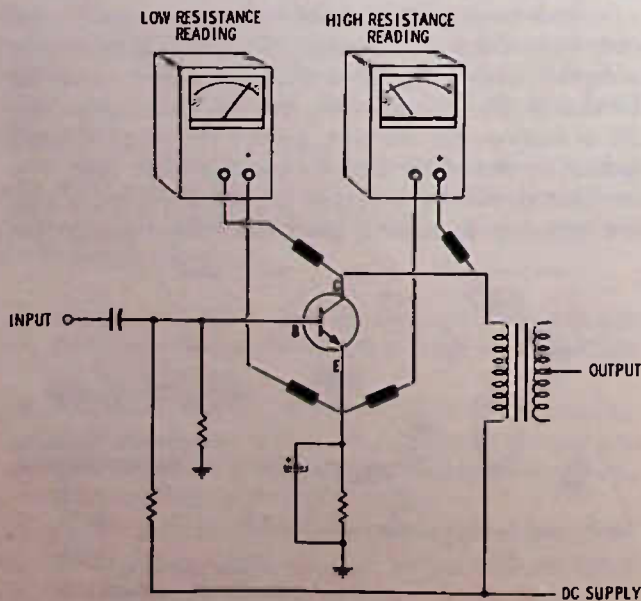

Fig. 15-8. Circuit for Question 2.
2. If the transistor in Fig. 15-8 were measured out-of-circuit, you might find that both ohmmeter readings would indicate fairly high resistance between collector and emitter. In-circuit, one reading may be low and the other high. Can you explain why?